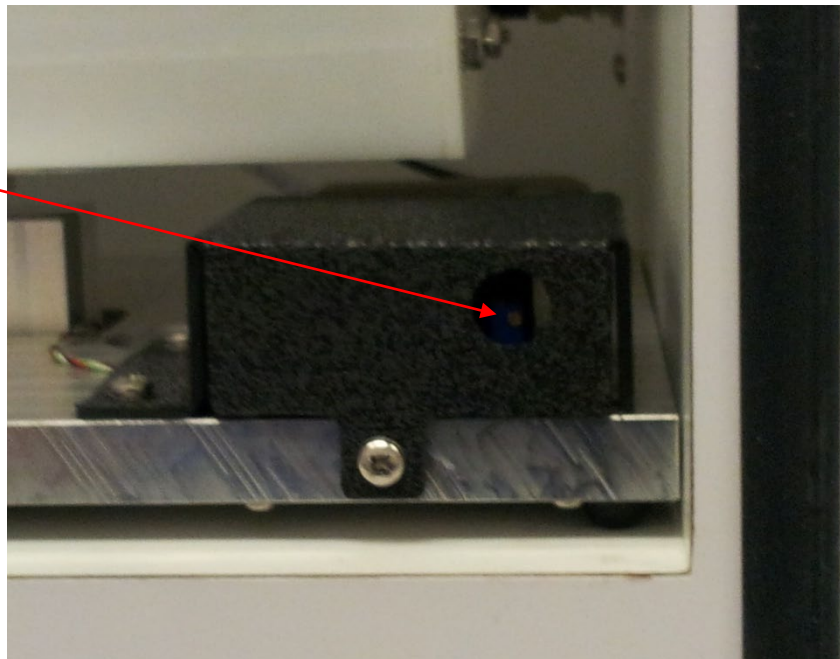

Figure 110 Mechanical Offset Potentiometer Location
Step 3. Using the adjustment tool, adjust the Offset pot on Sensing Plate of Enclosure 1 (Figure 110) for a value of 0.000 Volts +/- .050 Volts.